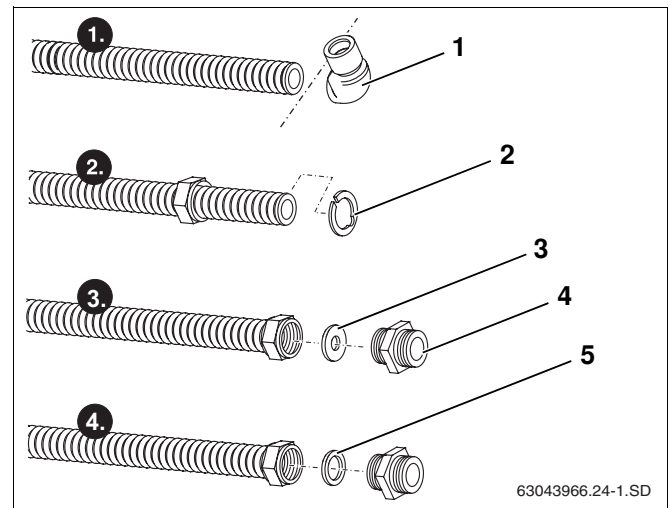

Fig. 57 Preparing the connection pipe
- Cut elbow (Fig. 57, **Item 1**) from connection pipe using pipe cutter.
- Place clamping disc (Fig. 57, **Item 2**) behind the first rib and press together. The clamping disc must lie evenly on the collar of the nut.
- Put large diameter washer (Fig. 57, **Item 3**) into the union nut in front of the cut surface of the connection pipe.
- Firmly screw double threaded fitting (Fig. 57, **Item 4**) into union nut, so that a flat sealing surface is created on the connection pipe.
- Insert gasket (Fig. 57, **Item 5**) and screw in double threaded fitting.